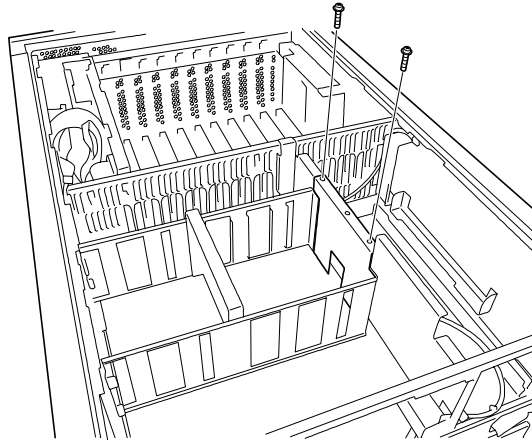

Figure 4-16. Removing the CPU Cage
6. Remove the two screws securing the CPU cage to the BSU chassis and remove the cage, see Figure 4-16.